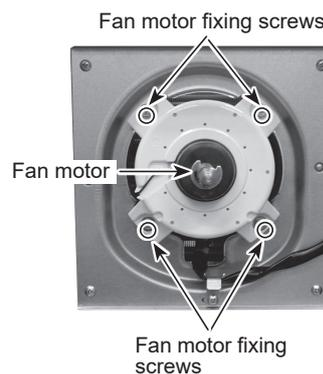

Figure 1
4. Remove the front panel fixing screws (2 for front/ 4 x 10 and 5 for front/ 5 x 12), then slide the front panel upward to remove it. (See Photo 2) The front panel is fixed to the side panel (L) with hooks on the left side.
7. Loosen the clamps on the side of the motor support and the separator. (See Figure 1 and 2)